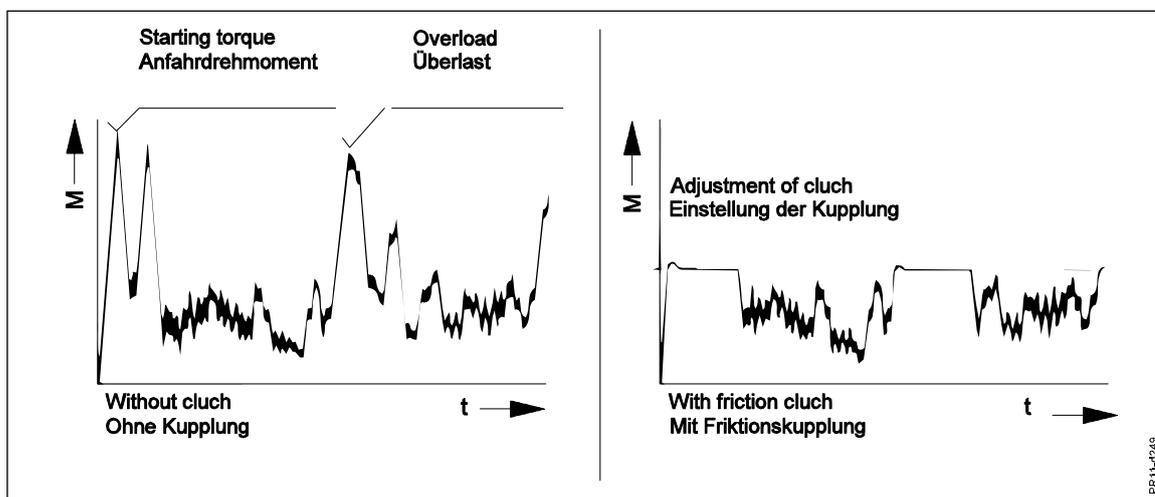

Fig. 3-3
**Fig. 3-3** In order to ensure a long life for your tractor and machine, the machine is delivered with a **friction clutch** on the PTO drive shaft between the input gear and the straw bedder.